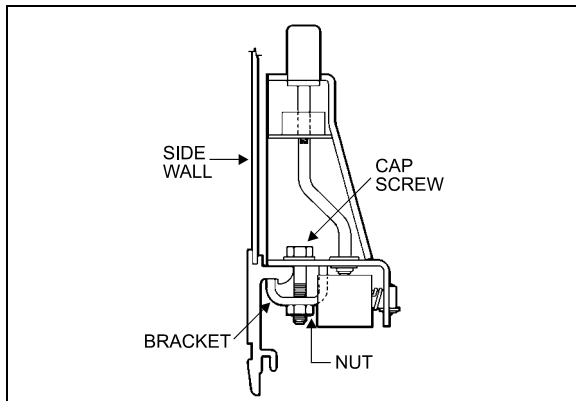

FIGURE 27: ARMREST 18106
4. Remove 2 cap screws, nuts, and washers holding seat frame to side wall and retain the 2 holding brackets. See figures 27 and 28.